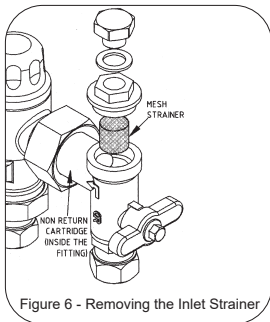

Figure 6 - Removing the Inlet Strainer
- Remove the inlet fitting top cover with a suitable spanner and then remove the mesh strainer, as shown in Figure 6